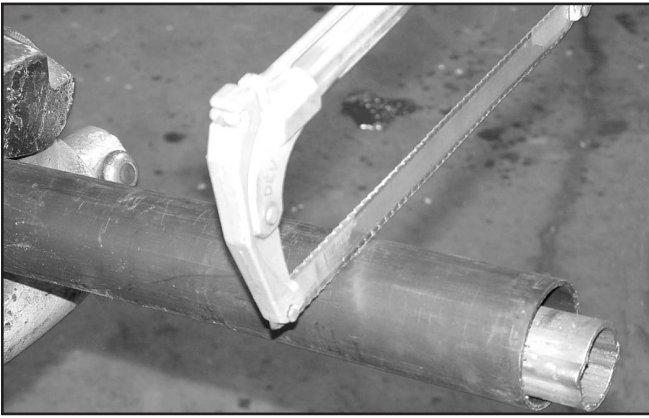

Figure 6. Cut Shield
- Cut the shield to the overall dimension (Figure 6).